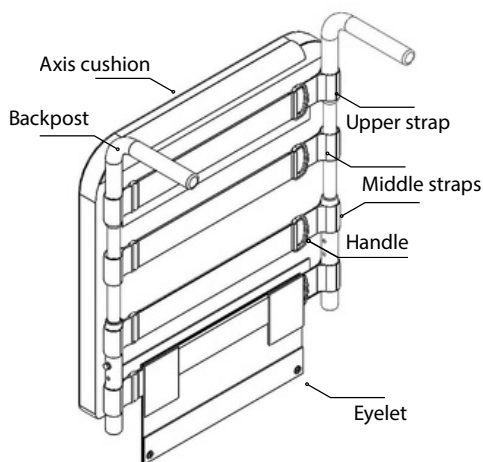

Figure 2
1. Evenly position the straps by wrapping their Velcro ends around the backrest posts on each side (see figures 2 and 3).
2. Pull the handles to adjust the strap tension as desired (see figure 2).